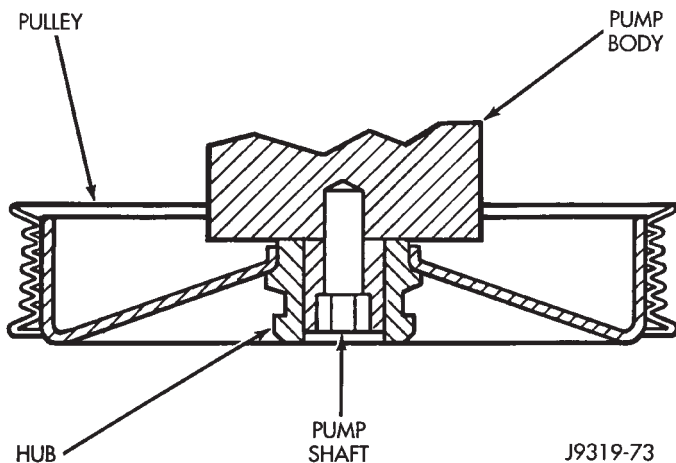

Fig. 7 Pump Shaft Location
(2) Be sure tool and pulley remain aligned and NOT cocked with the pump shaft.
(3) Press the pulley on flush with end of pump shaft (Fig. 7).
(4) Install power steering pump. Refer to Pump Replacement in this section.